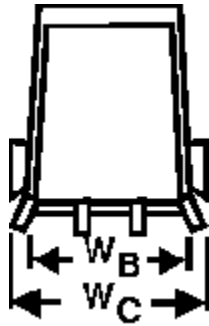

Fig. 3 - BUCKET WIDTH
4.1 The "bucket width" is measured over the sides of the bucket at the lower lip without teeth or side cutters attached. (See W_B , Fig. 3.)
4.2 The "cutting width" is measured over the teeth or side cutters. (See W_C , Fig. 3.)